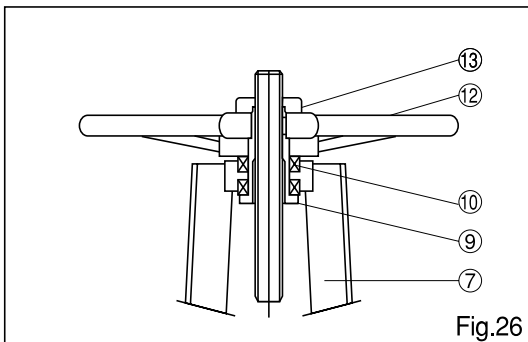

Fig.26
When Inspecting or replacing yoke sleeve ⑨, do the following procedure by referring to parts diagram. (Fig.26)